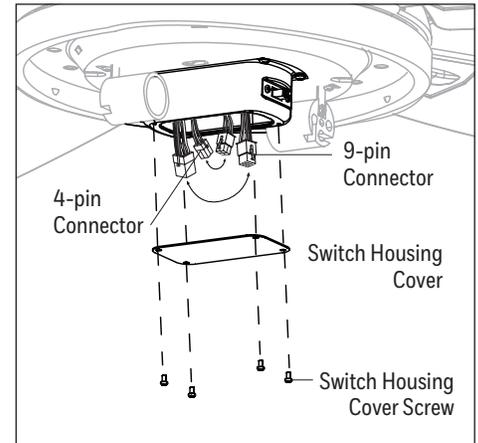

Figure 5.9
- Connect the two 4-pin connectors and two 9-pin connectors from the switch housing. Insert the connectors into the switch housing. Then, install the switch housing cover to the switch housing using the switch housing cover screws that were previously removed (Figure 5.9).